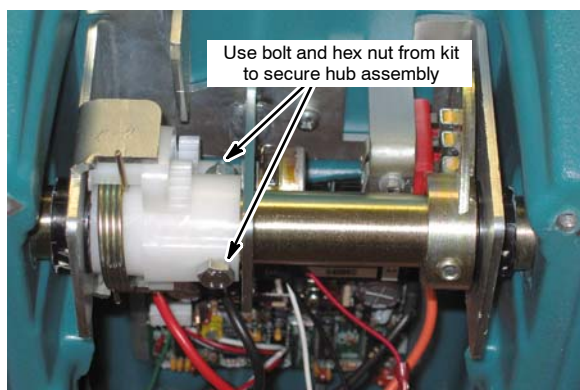

Fig. 13
d. Secure the hub assembly to the handle using the bolt and hex nut supplied in the kit (Figure 13).